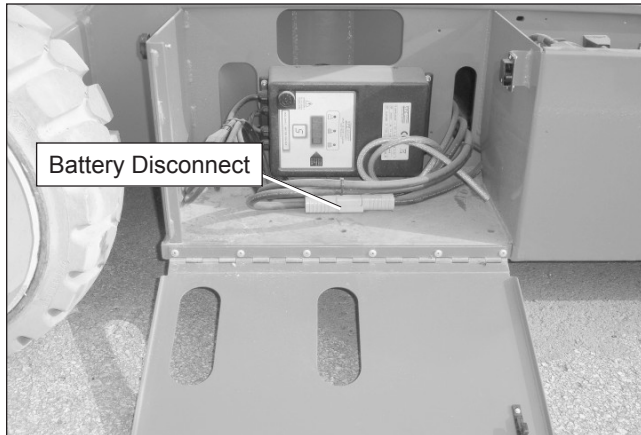

Figure 8.3 – Battery Disconnect Panel
2. Turn the battery disconnect switch on (refer to Figure 8.3).
3. After a short delay, visually inspect the battery charge indicator for proper charging rate (refer to Figure 8.3).